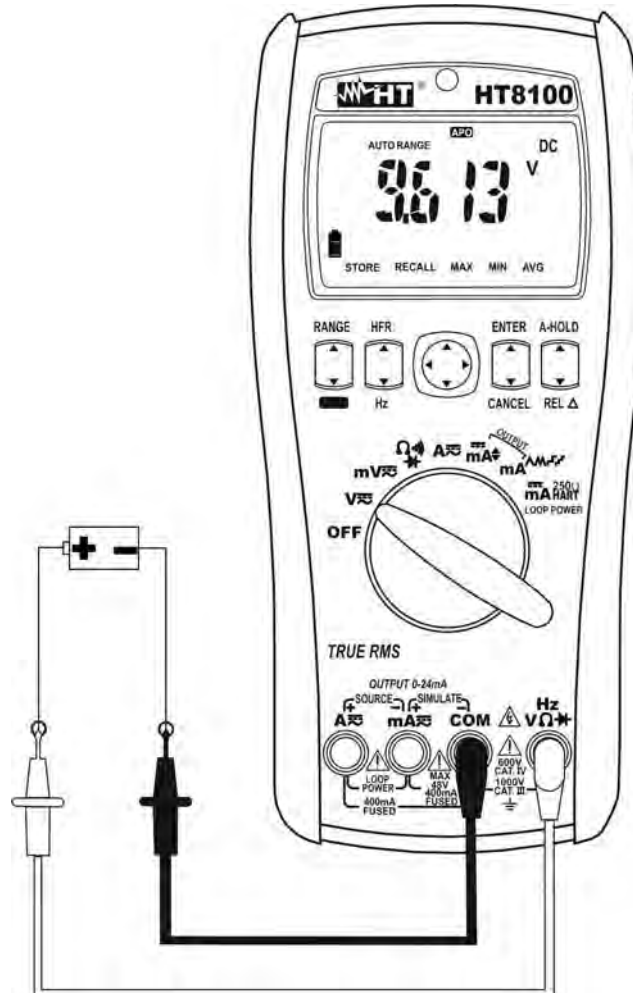

Fig. 2: Use of the instrument for DC voltage measurement
5. Position the red lead and the black lead respectively in the points with positive and negative potential of the circuit to be measured (see Fig. 2). The display shows the value of voltage
7. When symbol “-” appears on the instrument’s display, it means that voltage has the opposite direction with respect to the connection in Fig. 2